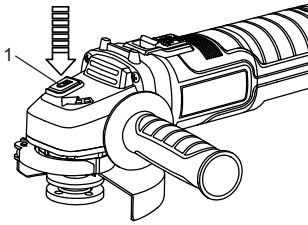

Fig. 10
1. Press the spindle lock button (1) and turn the spindle until it locks in place (Fig. 10).